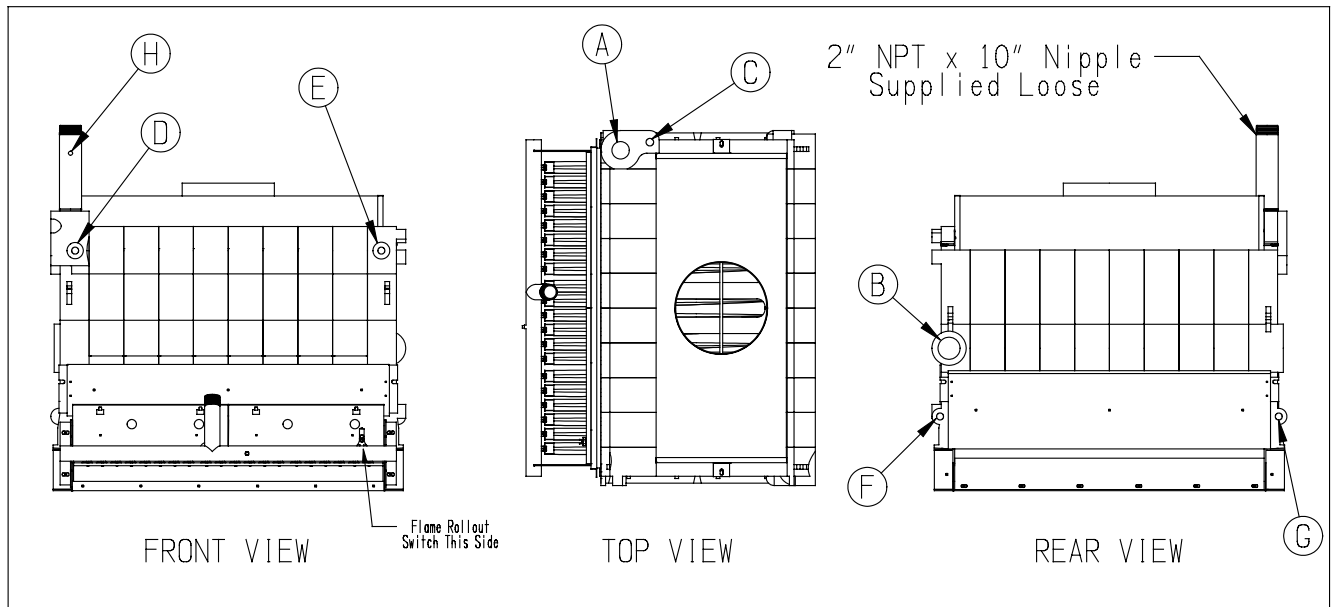

Figure 4: Boiler Shipping Arrangement With Tapping Locations
- 6) Leak test the heat exchanger before installing the jacket, trim and controls. Refer to Figure 4 and Table 4 for tapping locations and sizes.
- 10) The flame roll-out switch has been mounted to the burner access panel at the factory. On boilers with two access panels the panel with the mounted flame roll-out switch should be located on the right. See Figure 4. The flame roll-out switch is a single use device - do not test with heat - the switch cannot be reset.
- 11) Remove the immersion well from the Combination Boiler Parts and Control Carton. Insert the immersion well in tapping D. See Figure 4. If a second limit or operating control is used, it is recommended that it be installed in the near boiler supply piping.
- 1) Table 4 shows the use of all tapings on Series 16 boilers. The tapping letter designations referenced are shown in Figure 4. Control and trim components are as follows: